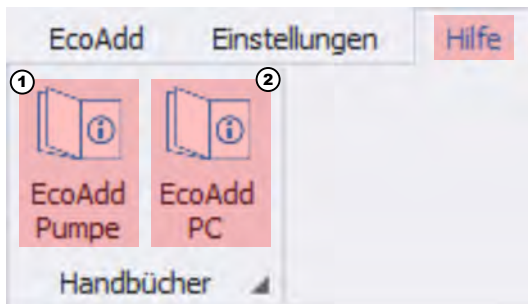

Fig. 61: Selection: Help
⇒ The [Help] Fig. 61 menu opens.
2. If you want to open the operating instructions for the **EcoAdd metering pump (417102276)**, select [EcoAdd pump] Fig. 61, item 1.
3. To open the software manual for the **EcoAdd PC program (417102297)**, select [EcoAdd PC] Fig. 61, item 2.